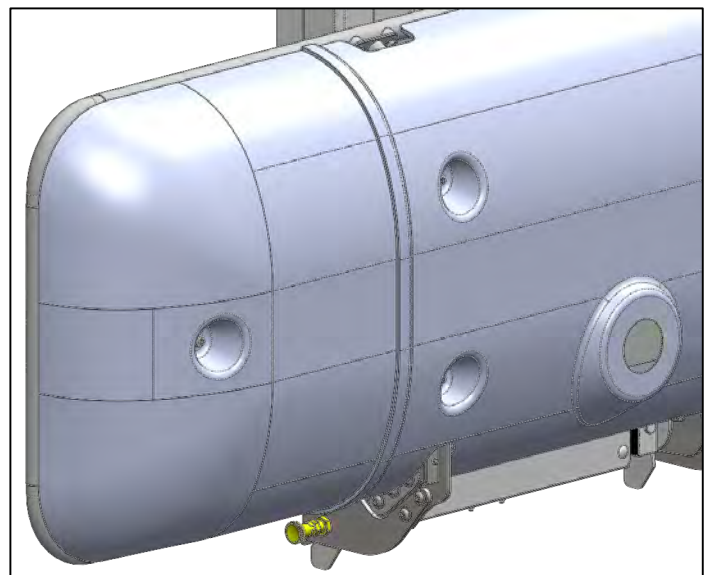

Fig. 13
- Locate the plunger pin on the left-hand side of the back frame (highlighted in Fig.13). With one hand on the back of the drip tray, pull the head of the plunger out and rotate it 90° so that it stays in the locked position.
- Pull the head of the plunger pin on the left-hand side of the back frame (Fig.13), rotate it 90° and release.
- Rotate the head of the left-hand plunger pin (Fig.13) 90° and move the drip tray up and down until the plunger pin 'clicks' into place.
- Rotate the head of the left-hand plunger pin 90° (Fig.13) and move the drip tray up and down until the plunger pin 'clicks' into place.
- Pull the head of the plunger pin on the left-hand side of the back frame (Fig.13) and with your other hand, start to raise the drip tray.